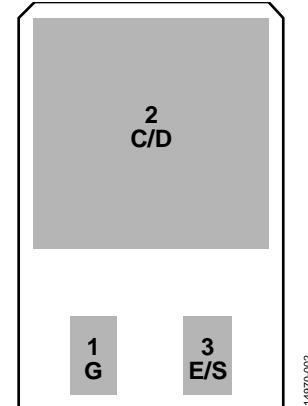

Figure 2. IGBT/MOSFET Footprint
Figure 2 shows the top layer artwork for the dual-gate driver circuit. Evaluation board components include the following:
- Q1, Q2, and Q3 can be populated with TO-246, TO-252, or TO-220 MOSFETs or IGBTs (see Figure 2).